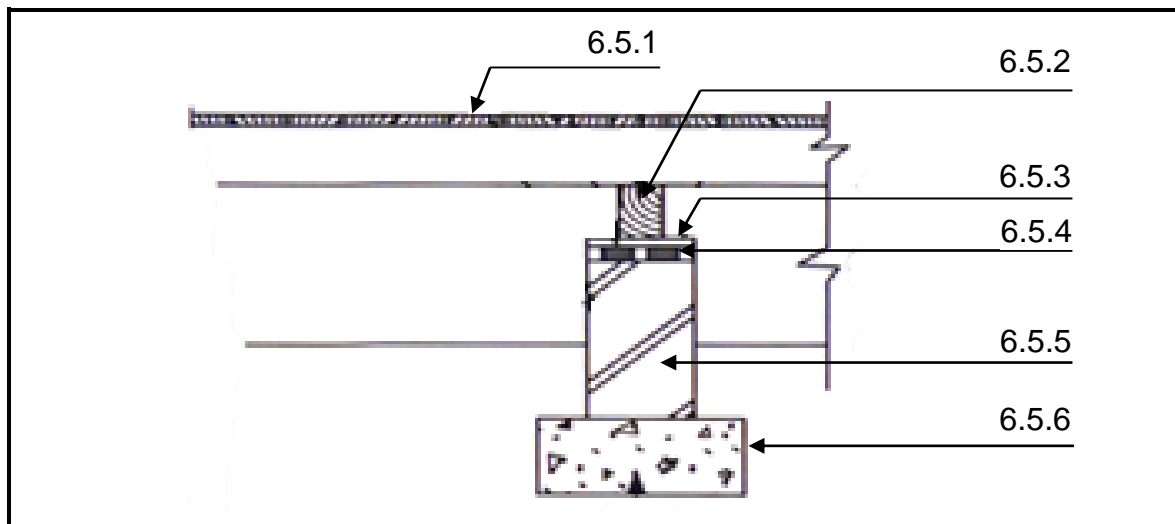

FIGURE 6.5
6.5 FIGURE 6.5 shows a part of a suspended wooden floor. Name parts 6.5.1–6.5.6.